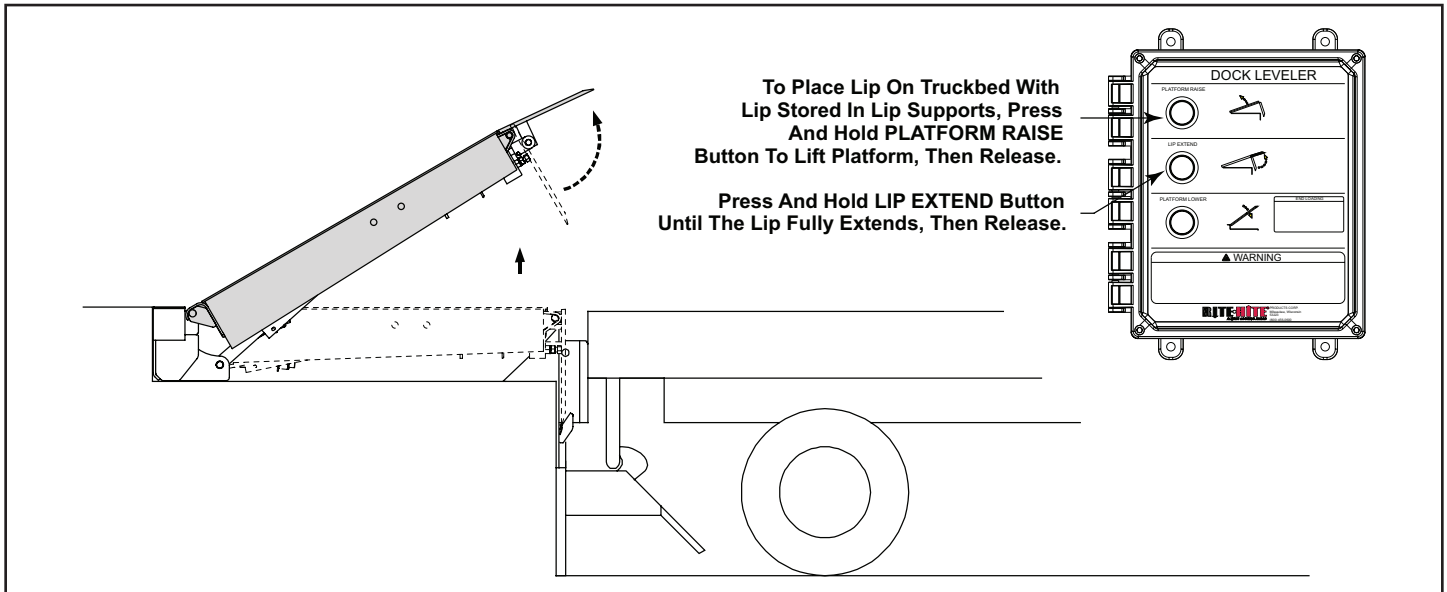

FIGURE 8 - RAISE LEVELER AND EXTEND LIP
1. Press and hold the PLATFORM RAISE button until the platform and pendant lip have fully cleared the truck floor. Release button. See Figure 8.